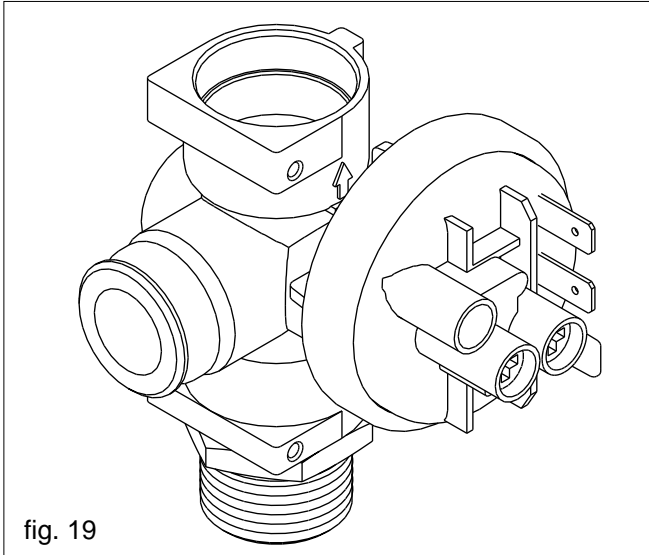

fig. 19
6.8 WATER PRESSURE SWITCH (see fig. 19)